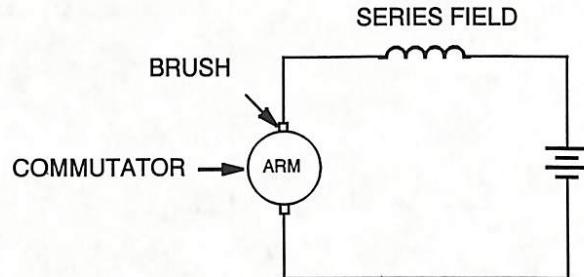

Figure 7. Series Motors.
**Series.** The series motor is so named because the armature and field windings are connected in series, as shown in Figure 7. This method of connection makes it necessary for the field to be heavy enough to carry the armature current. Consequently, the wire in a series field is of a large size, and the winding contains relatively few turns. The one serious disadvantage of the series motor is that the speed of the motor varies inversely with the load. Should the load be removed, the increase in motor speed could result in destruction of the motor. Series motors are not operated without a load. Therefore, this type of motor is not adaptable to a constant-speed application, although it is ideal for use where the speed of the motor is continuously under the control of an operator, and where a high starting torque is required. In most small series motors (electric drills for example) the gears load the motor enough to prevent motor runaway. The torque of a series motor varies as the square of the current varies. (The torque will increase as the square of the current increases up to the point where the core material reaches saturation.) Because of its speed characteristics, the series motor is not suitable for any load where the required torque might drop below 15 percent of full-load torque.